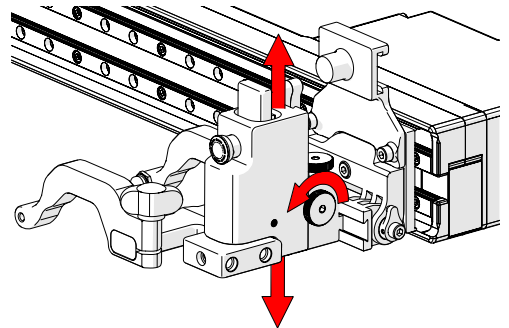

Fig. 127 - Vertical adjustment
2. The vertical adjustment knob (*Fig. 127*) allows the heavy duty vertical probe holder's height adjustment. This adjustment also controls the probe holder's spring tension.